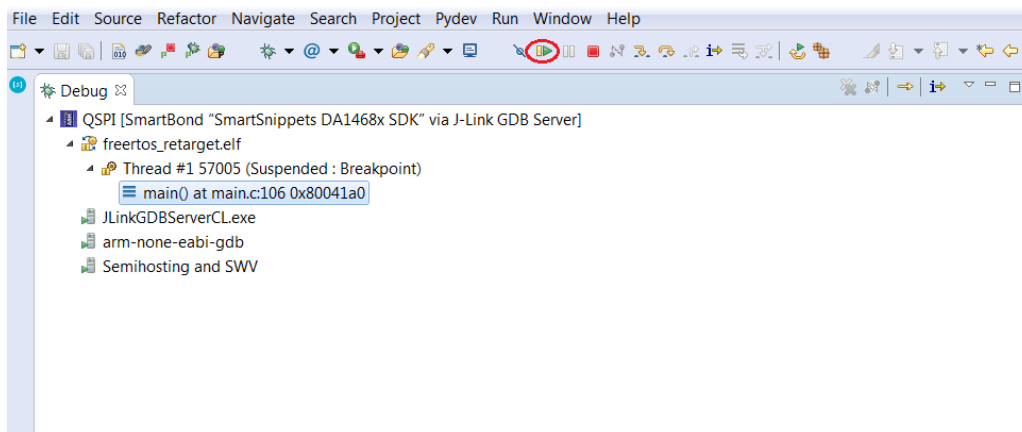

Figure 41: Executing the `Blinky` project in Eclipse
2. Start execution of the `Blinky` project by selecting **Resume** inside the Eclipse Run menu or by hitting the **play** icon as indicated in Figure 41.